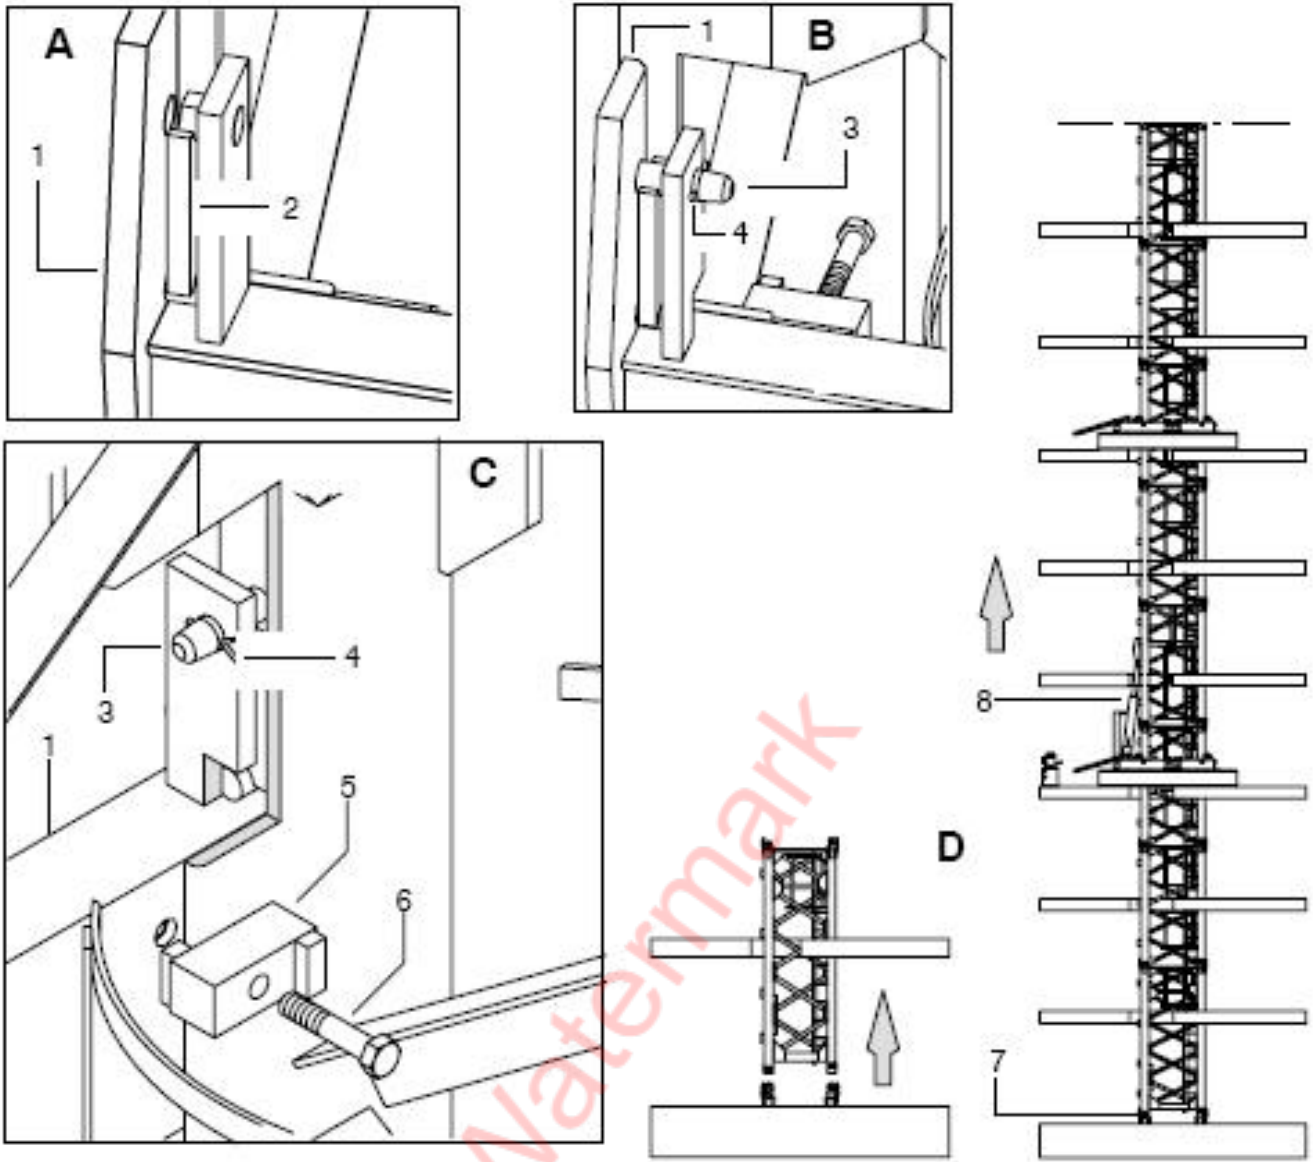

Figure 1
Rest the yoke (1) under a set of telescoping lugs (2) welded on the mast section (Detail A – Figure 1).
Lock the yoke (1) by means of the shafts (3), split pins (4), fixing flanges (5) and screws (6) (Detail B and C – Figure 1).
Withdraw the shafts (7) connecting the part to be telescoped to the crane part remaining on the ground (mast section or fixing angles). Extend the cylinder (8) in order to disengage the base of the crane part to be telescoped (Detail D – Figure 1) (These operations are to be carried out only during the first telescoping sequence).